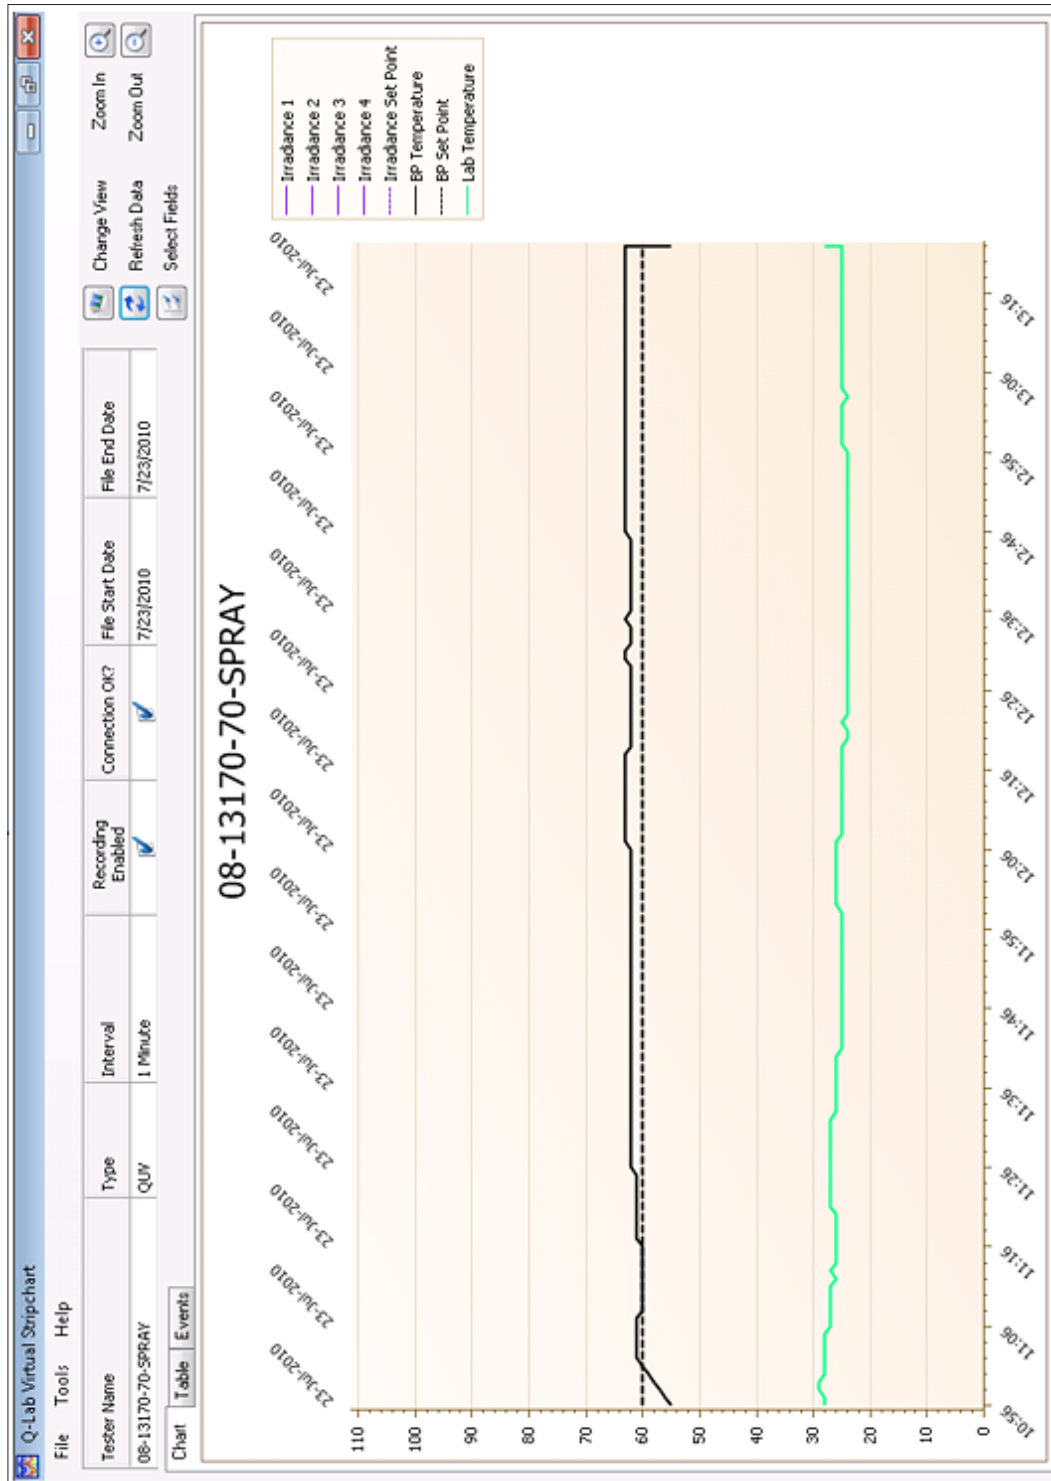

Figure 12.3g: Stripchart view of QUV operational data.
- The exported files (Figure 12.3e and Figure 12.3f) can be uploaded to the Q-Portal Asset Center where customers can view basic operational data (Figure 12.3g and Figure 12.3h) and Q-Lab personnel can view extended operational data.